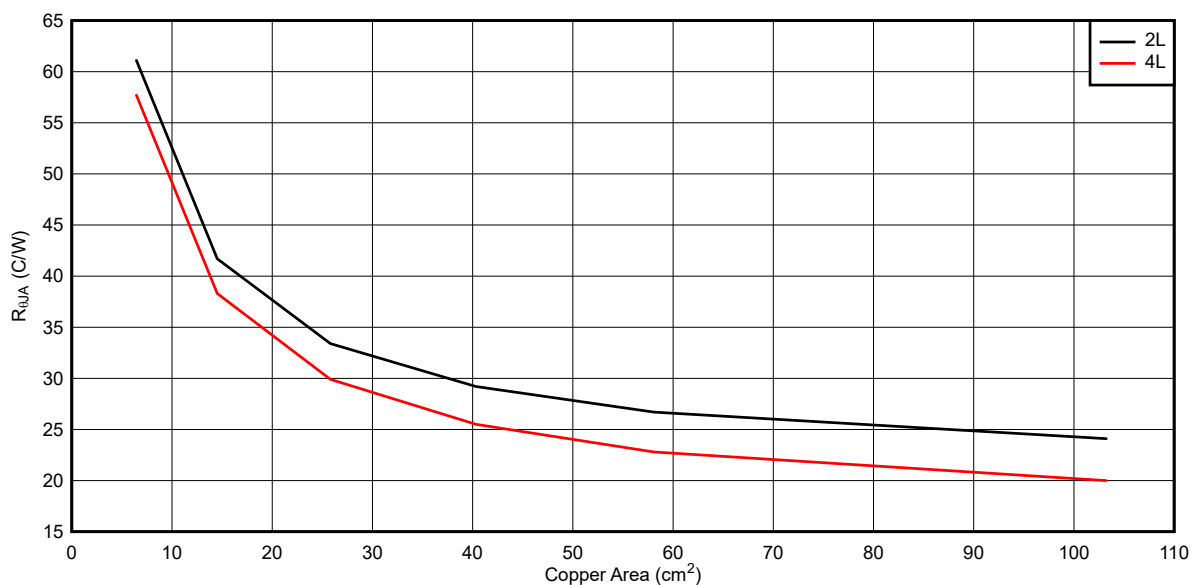
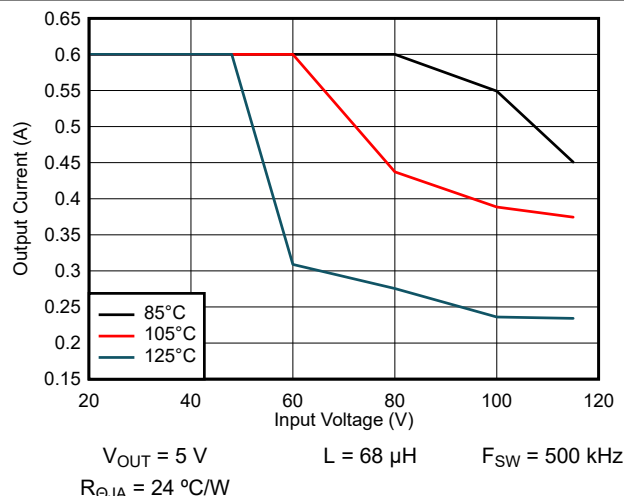
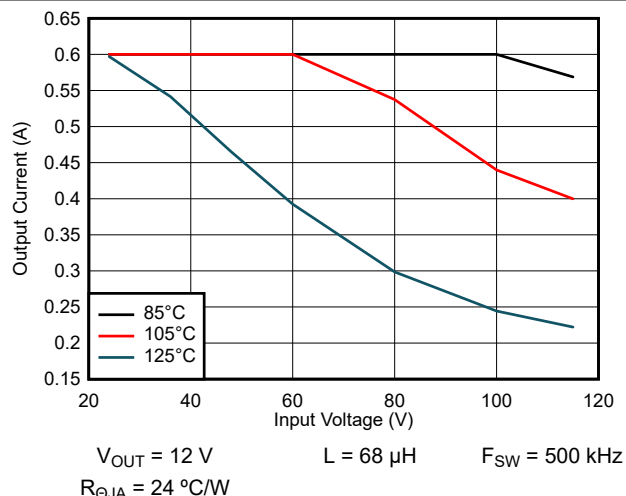

Figure 9-33. Typical $R_{\theta JA}$ Versus Copper Area
Figure 9-34. Maximum Output Current: VOUT = 5 V
Figure 9-35. Maximum Output Current: VOUT = 12 V
The LM516x features a die attach paddle, or "thermal pad" (EP), to provide a place to solder down to the PCB heat-sinking copper. This provides a good heat conduction path from the regulator junction to the heat sink and must be properly soldered to the PCB heat sink copper. Typical examples of $R_{\theta JA}$ can be found in Figure 9-33. The copper area given in the graph is for each layer. The top and bottom layers are 2-oz copper each, while the inner layers are 1 oz.
The data in Figure 9-34 and Figure 9-35 can be used as a guide to determine the maximum output current for a given set of conditions. The particular conditions under which these graphs were taken are indicated in the notes below each graph.
Remember that the data given in Figure 9-33 through Figure 9-35 is for illustration purposes only, and the actual performance in any given application depends on all of the previously mentioned factors.